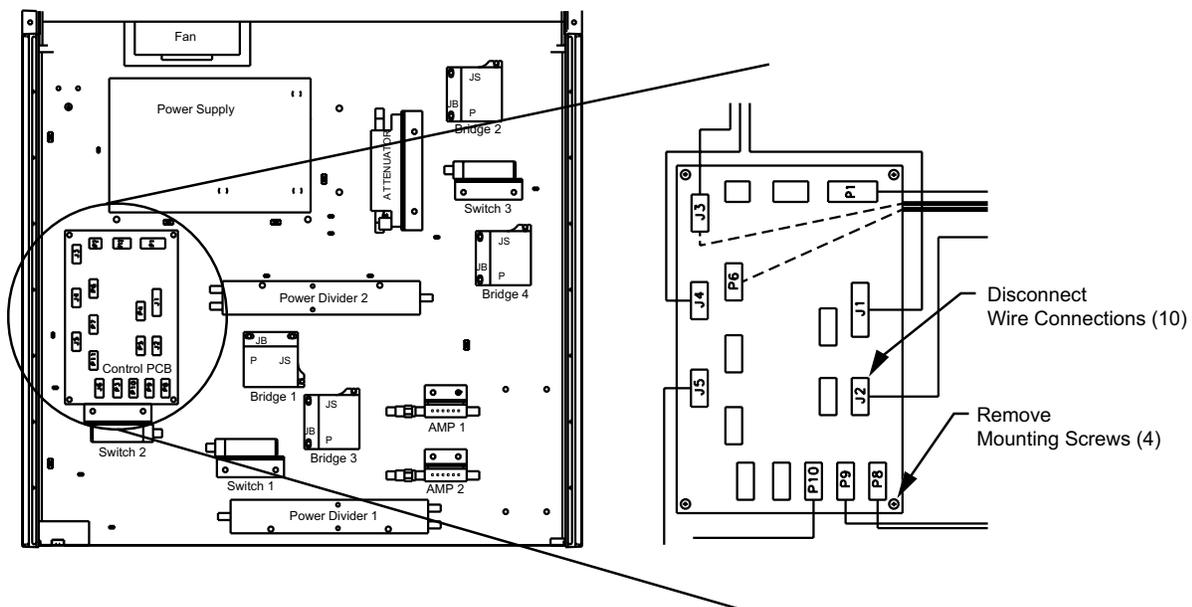

Figure 5-2. Control PCB Removal
- Step 2.** Disconnect the wires from connectors P1, P6, P8, P9, P10, J1, J2, J3, J4, and J5 on the Control PCB (Figure 5-2).